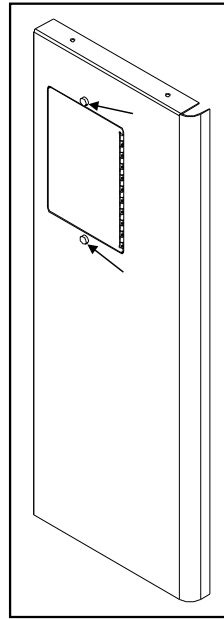

Figure 30: Right Panel - Front
Place the circuit board control panel on the backside of the right surround panel so the hinge is on the outside and the top and bottom holes on the control panel line up with those on the surround. Attach using two (2) T-20 screws through the front of the surround into the circuit board control panel (see Figure 30).